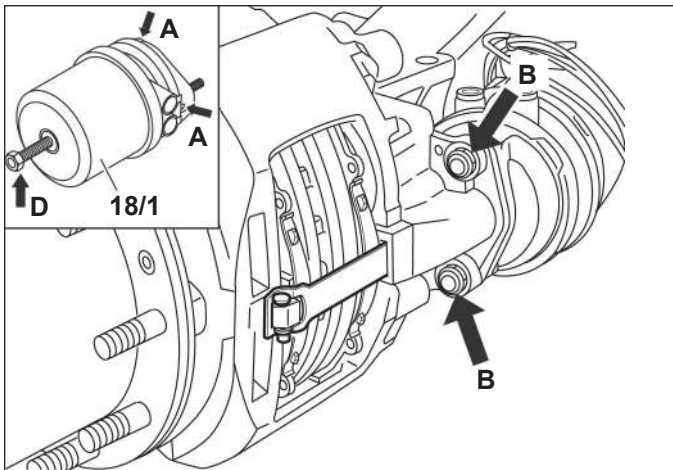

Figure 43 – Actuator Spring Caging and Removal
5.4.3 With the vehicle on a level surface and the wheels properly chocked, apply air to release the spring brakes (parking brakes) by using the dash-mounted air control valve. Back out the release bolt (See *Figure 43, arrow "D"*), using a maximum torque of 26 ft-lbs (35 Nm) to cage the air released spring force on the pushrod.
5.4.5 Exhaust the air from the brake chambers by using the dash-mounted air control valve. With all air pressure drained from the system, disconnect the air hoses from the brake chamber. While supporting the brake chamber in position, remove and discard the brake chamber mounting nuts (See *Figure 43, arrows marked "B"*). Remove the brake chamber.
Note: Where a new spring brake chamber is being installed, note that in some cases drain plugs are installed (See Figure 43, arrows marked "A"). Where drain plugs are present, after installation, remove whichever plug is at the lowest position. The selected drain hole must be aligned downwards (or within $\pm 30^\circ$) when installed on the vehicle. In the case of spring brake chambers, install the pads before uncaging the spring.